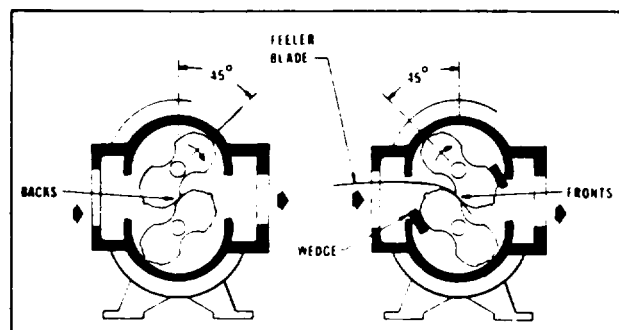
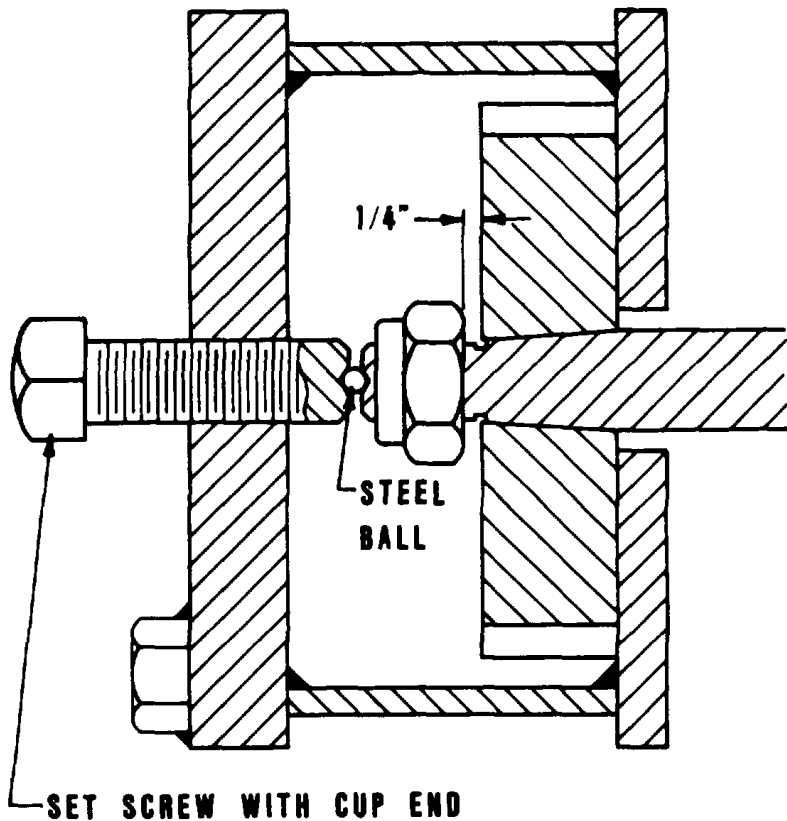

Figure 5-Impeller Timing Viewed From Gear End
Figure 9 - Gear Removal.
It is recommended that major repairs, if needed, be performed at a Dresser authorized service facility. However, it is recognized that this may not always be practical, especially when a spare blower is not available. If a blower is out of the warranty period, mechanical adjustments and parts replacement may be undertaken locally at the owner's option and risk. It is recommended that Factory Parts be used to insure fit and suitability. The maintenance of a small stock of on-hand spare parts can eliminate possible delays. When ordering parts give Item Numbers and their word descriptions from Figures 5 & 6. Also specify quantities wanted and the blower size and serial number from the nameplate.
3. **GEAR REMOVAL:** For this operation, the impellers should be wedged as shown in Figure 5. Back off gear clamping nuts (17) about 1/4". Use a puller of the type shown in Figure 10. Position it around the gear per Figure 9. As the puller set screw is torqued, the puller will have a tendency to turn and contact teeth of the other gear. To prevent this contact, hold the puller corner nut with a wrench while torquing the set screw. Once the gear is unseated, remove the puller. Remove gear nuts (17) and the gear. Repeat same procedure for the other gear. **NOTE: Do not remove gear nuts (17) completely before the gears are unseated from the taper fits or damage/injury may result.**
- INSTALLATION: Place impellers in correct position as previously marked. Be sure shafts and gear bores are clean and free of scratches. Clean the shaft tapered fits. Place hardwood wedges as shown in Figure 5. Install drive gear (4) and gear nut (17) so match mark at tooth is at the line of engagement. Tighten the drive gear nut to the torque given in Table 5. Blower assembly must be fastened down for torquing operation.
- Installing driven gear (4) Insert a long, metal feeler gauge between the impellers' lobes at the fronts or backs as shown in Figure 5. Feeler gauge thickness to be a middle value from Table 6 for fronts and backs. Align the gear so the tooth match marks agree with the drive gear, then install nut (17). Tighten lightly with a small wrench, then check front and back clearances against Table 6 for each 45° position. Both fronts and backs should be about the same and within the specified range in Table 6. Adjust gear position, if necessary, then insert the corrected feeler gauge and wedges and use a torque wrench to tighten the gear nut to the torque specified in Table 5. Remove wedges and rotate the drive shaft by hand to make sure there are no gear tight spots or impeller contacts.